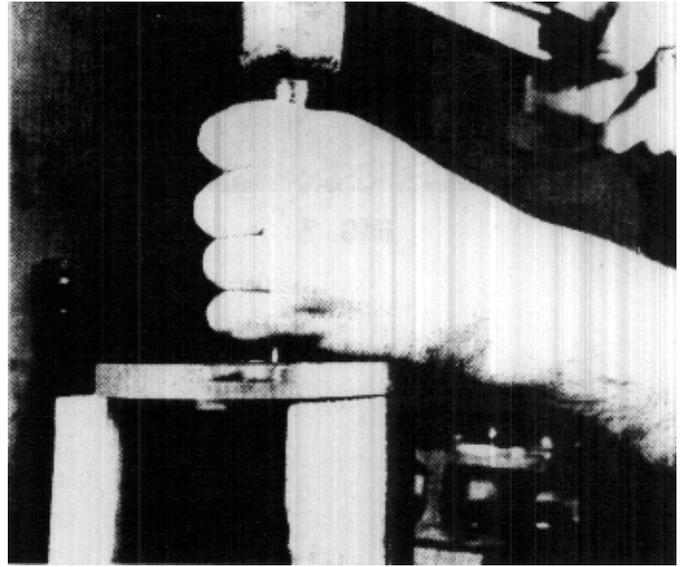

FIGURE 114
4. Press the old seal out of the plate. **USE EXTREME CARE IN REMOVING THE SEAL.** Press it straight out of the seal bore. If a punch and hammer are used, move the punch around the seal so that it causes even movement of the seal down the bore. Do not mar machined surfaces of the plate. (Fig. 114)